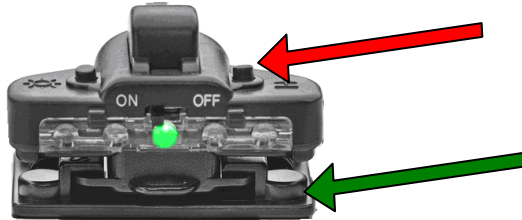

Figure 7: Components of the AXsys™ Electronic Head (Red arrow – indicates head; Green arrow – indicates base)
- The head part is indicated by the Red Arrow below in Figure 7.
- The base part is indicated by the Green Arrow below in Figure 7.